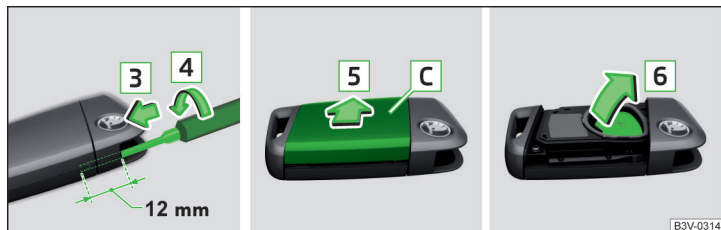

Fig. 243 Replacing the battery
- Insert a narrow screwdriver (3 mm wide) approximately 12 mm into the opening in the direction of arrow **3** » Fig. 243.